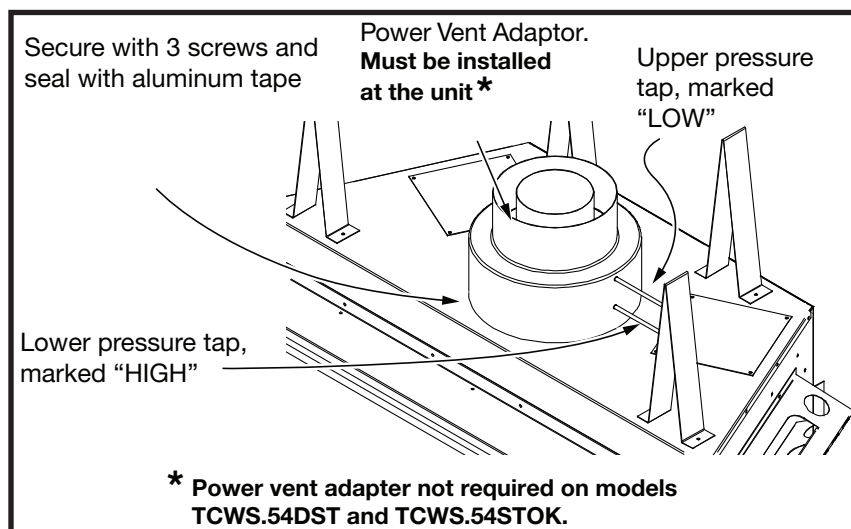
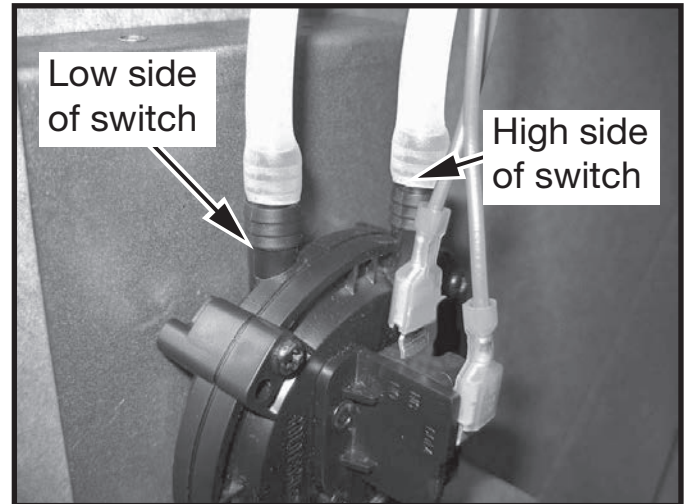
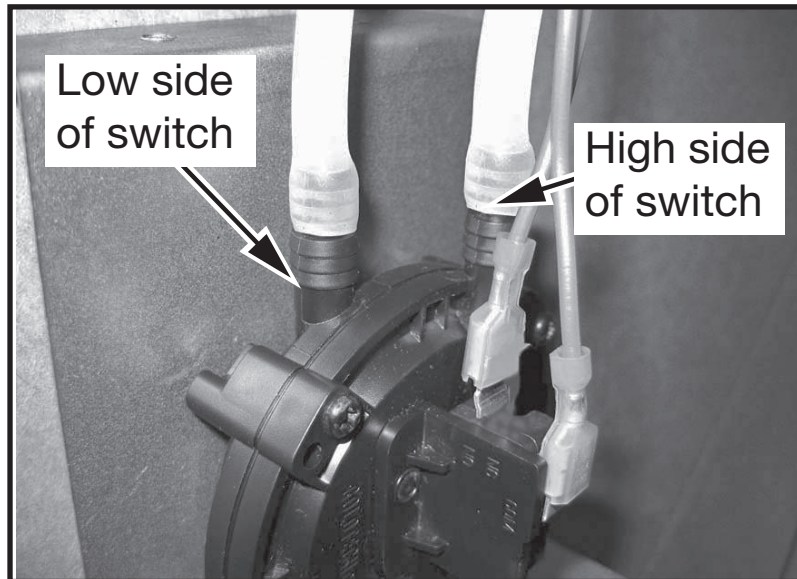
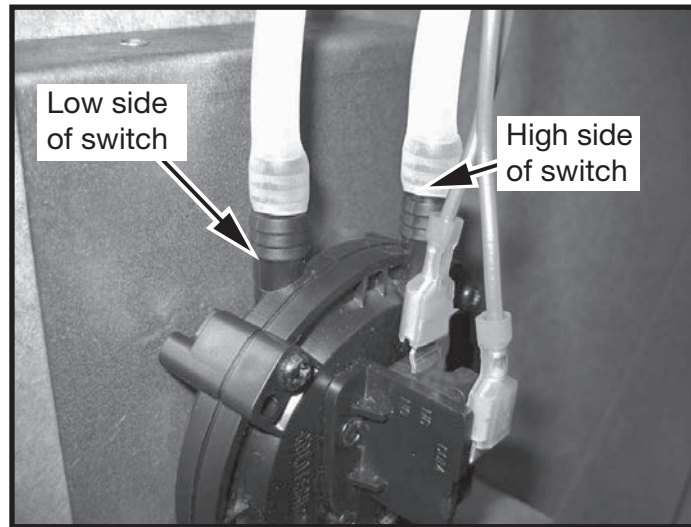

Figure 2: Power vent adapter.
Figure 9: Pressure switch.
Figure 14: Pressure switch port location.
Figure 20: Pressure switch connections.
15. Attach the vent adaptor directly to the appliance with three screws (Figure 2).
16. Connect one of the high temperature silicone tubes to the upper pressure tap on the adaptor (Figure 2) Secure with the hose clamp provided and route the tube through any hole back to control box. This tube will be connected to the "low" side of the vacuum switch inside the control compartment (Figure 9). Connect the second tube to the lower pressure tap and route to the control box as before. Connect this tube to the remaining port on the vacuum switch. Tubes may touch unit and be trimmed if required. Note: Ensure that there are no blockages in these tubes, as this will cause the control to malfunction.
6. Attach a silicone tube from the upper pressure tap on the power vent adaptor (Figure 2) to the low port of the pressure switch. Attach the other silicone tube from the lower pressure tap to the high port of the pressure switch.
3. Attach the silicone tube from the upper pressure tap on the power vent adaptor (Figure 2) to the “low” port of the pressure switch. Attach the other silicone tube from the lower pressure tap to the “high” port of the pressure switch (Figure 14).
Attach the silicone tube from the upper pressure tap on the power vent adaptor (Figure 2) to the “low” port of the pressure switch. Attach the other silicone tube from the lower pressure ap to the “high” port of the pressure switch (Figure 20).